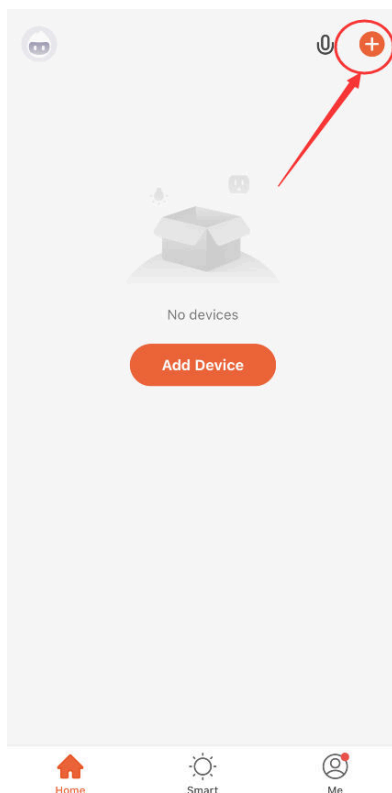
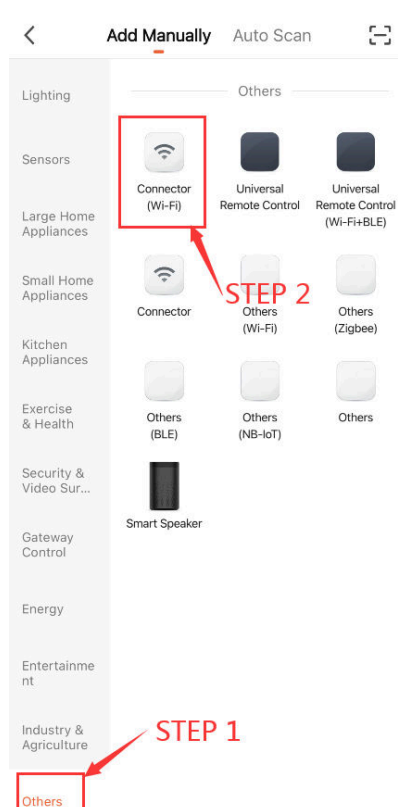
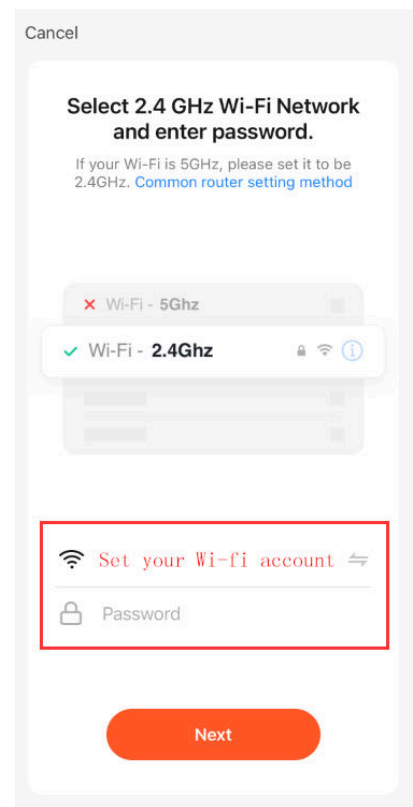

FIG.1
FIG. 2
FIG.3
2. When you log in, touch “+” (FIG.1) to enter in FIG.2. Touch “others” on the left corner first and then choose “Connector (Wi-fi)” to enter in FIG.3 to set your Wi-fi account and password.